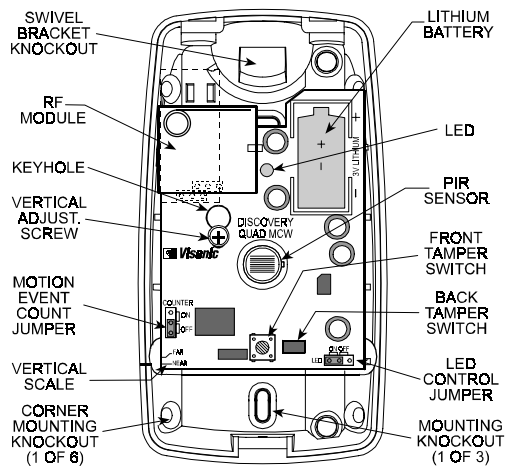
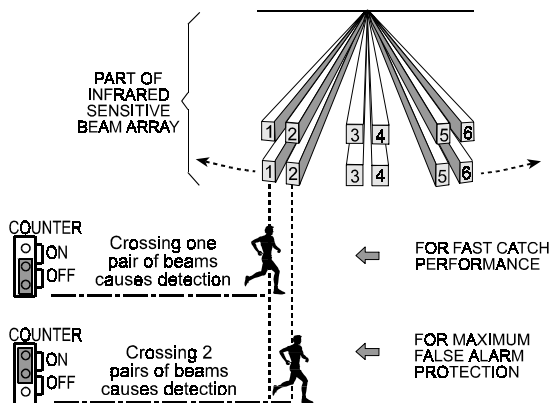

Figure 4. Inside View
Figure 9. Motion Event Counter Setting Options
- B. Insert the battery into the battery clip - observe polarity (see Figure 4).
- B. Loosen the vertical adjustment screw, slide the PCB down and remove it via the “keyhole” (see Figure 4).
The location of the motion event jumper is shown in Figure 4. Refer to Figure 9 below and mount the jumper as desired.